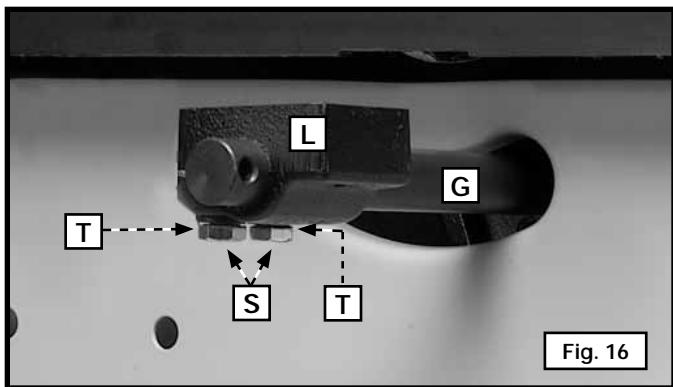

Fig. 16
- Loosely attach the lower bracket (L) Fig. 16 to the rod (G) with two 5/16-18 x 1" hex-head screws (S) and 5/16" lockwashers (T) from underneath the bracket (L).